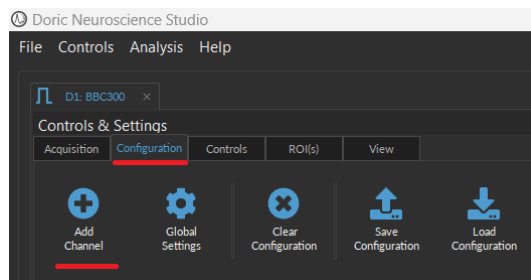

Figure 1.4: Add Channel
3. Under console tabs, Click **Configurations** tab, select **Add Channel** (Fig. 1.4).